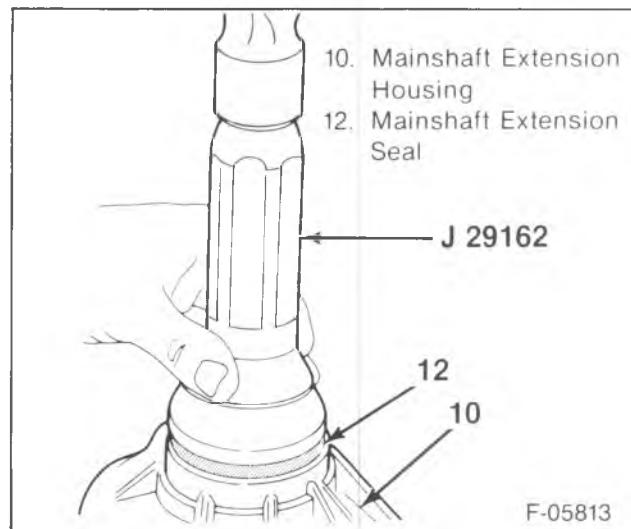

Figure 14—Rear Output Bearing Seal Installation
7. Extension oil seal (12) in the extension bore using J 29162 (figure 14).